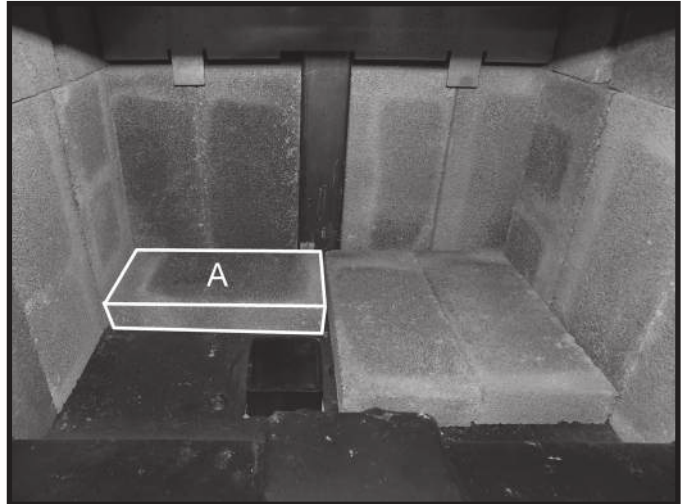

Figure 24: Third floor brick in place.
9. Place a third "A" firebrick against the rear wall as shown in Figure 24.